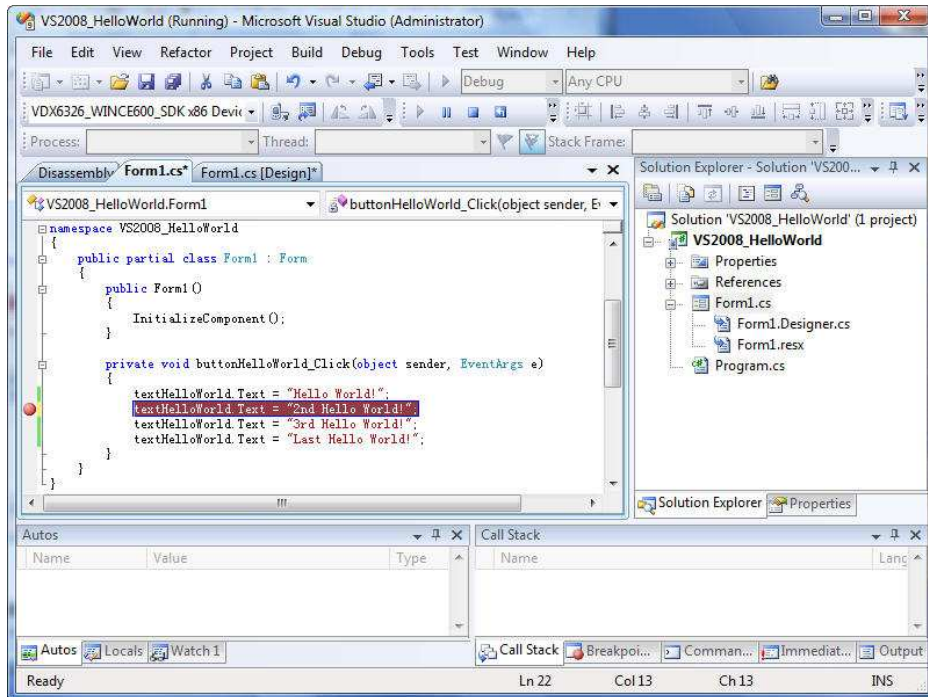

Fig. M14 - Setting breakpoint
- From the VS2008 IDE, navigate to the `buttonHelloWorld_Click` event code segment, click on the following line of code and press the F9 key to set a breakpoint, as shown in Figure M14.